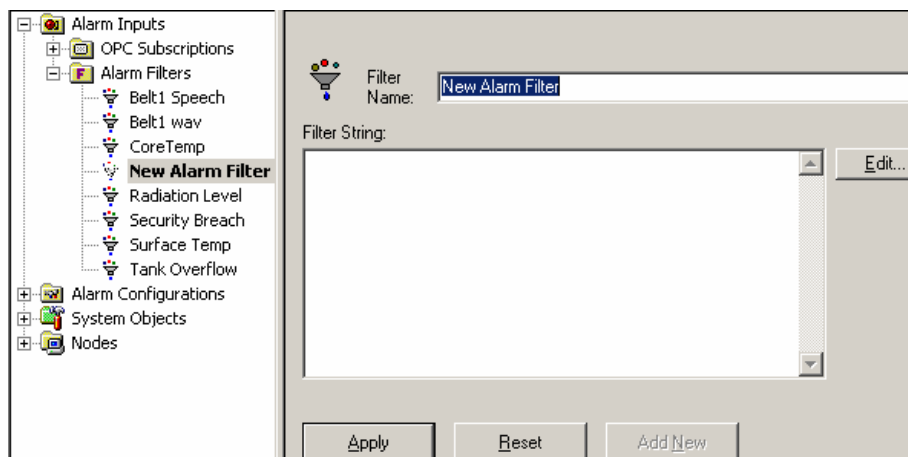

Figure 2.17. Naming the New Alarm Filter
2. Type in the new filter name, as shown in **Figure 2.17**.